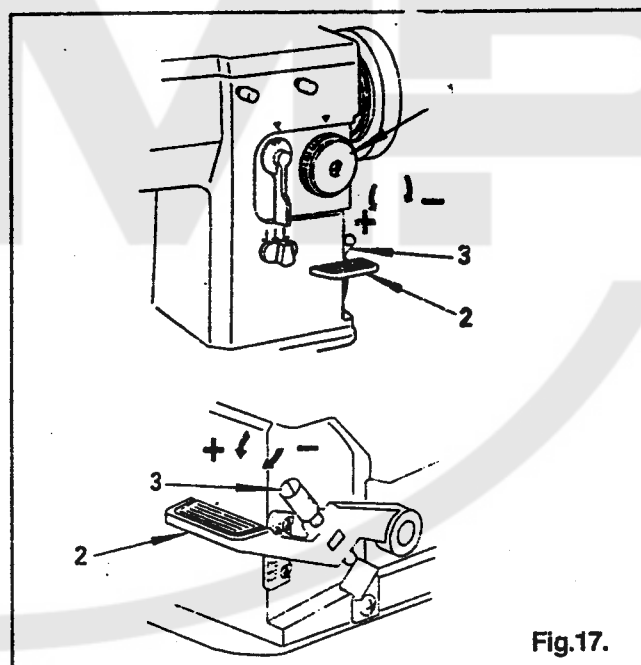

Fig.17.
To regulate the stitch length, turn feed regulating dial (1), Fig.17, toward left or right as required.
Push lever (2), Fig.17, down for reverse feed and release for forward feed.
To regulate the reverse stitch length, turn thumb screw (3), Fig.17 toward left or right as required.